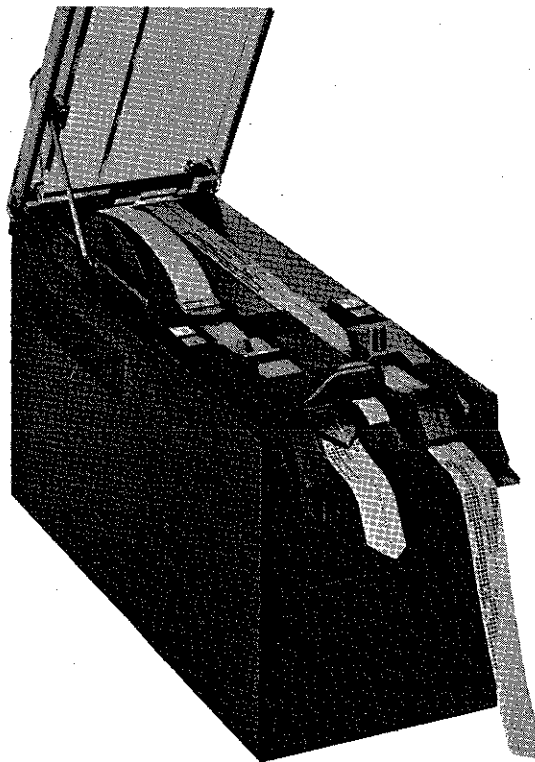

Figure 11.1 - Tape punch/reader
- TPR 4882 is a tape punch/reader (figure 11.1)